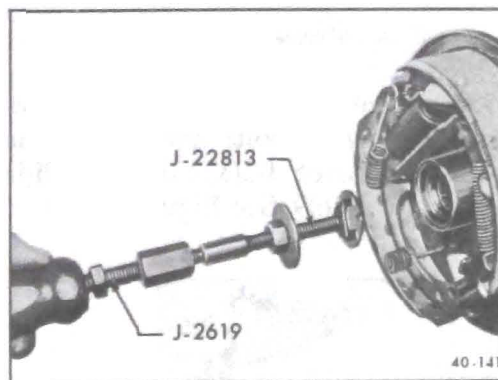

Figure 40-181 - Axle Shaft Bearing and Seal Remover
6. Install axle shaft bearing and seal remover J-22813 and remove the bearing and seal. See Figures 40-181 and 182.